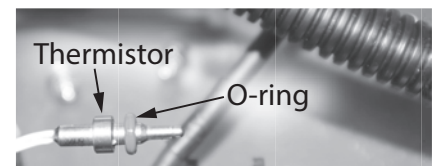

Figure 229 - Thermistor O-ring location
26 Locate the (3.8 x 1.9) O-ring provided in the kit. Place the O-ring over the thermistor and install it in the outlet assembly base. See Figure 229.
6 Locate the three (3) screws securing the X3®/Bypass cartridge as shown in Figure 229. Remove the **(A)** M4-12mm screw and the two **(B)** M4-25mm screws from cartridge. Place screws aside in a safe place for reinstallation.